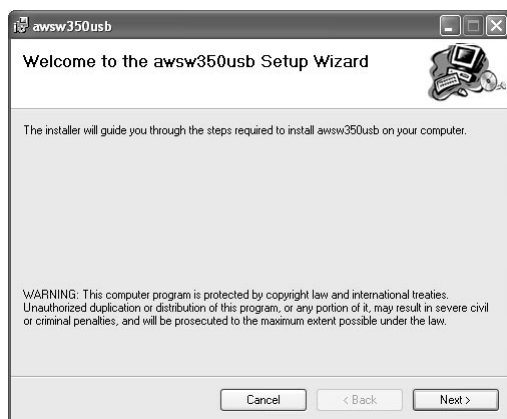

Fig.7 Application program installer start screen
- 5** The installer program shown in Fig.7 now starts. Proceed with the installation by following the installer instructions.